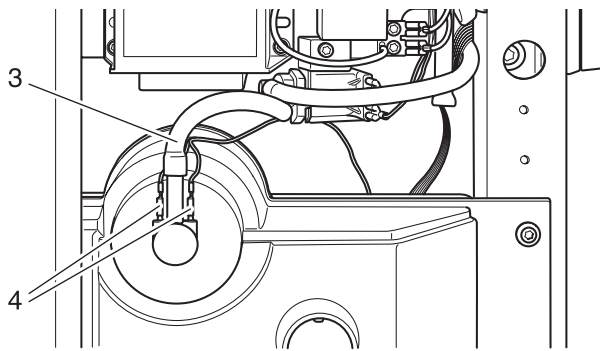

Fig. 14b
- Remove silicone tube 3 from water tank (fig. 14b).
- Fit silicone tube 3 onto the water tank (fig. 14b).